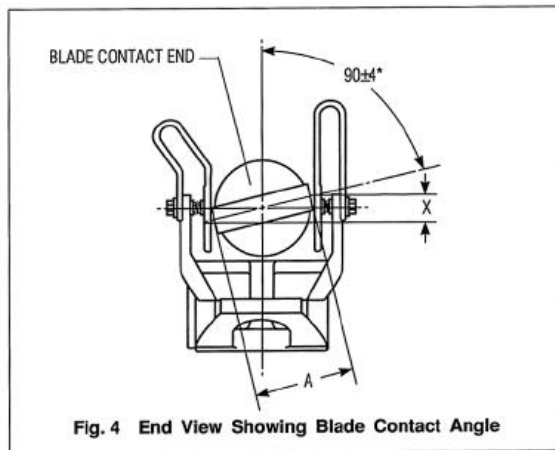

Fig. 4 End View Showing Blade Contact Angle
**Blade Contact Angle**—(Fig. 4) The allowable difference in elevation from one side of the blade contact to the other (dimension X) is  $1/16''$  for each 1'' of contact width. Example: If contact width (A) is  $4\ 1/2''$ , then dimension (X) can be as much as  $9/32''$  and still be within the plus or minus 4 degree tolerance.
Also, Fig. 4 shows blade contact high on the right and low on the left. The reverse is also acceptable, high on the left and low on the right. It is common to have both situations on one three-pole switch. In fact, after all three poles have been adjusted in the open position, and then closed, you may find that one pole will be high on the right, one fairly level and one high on the left. This is